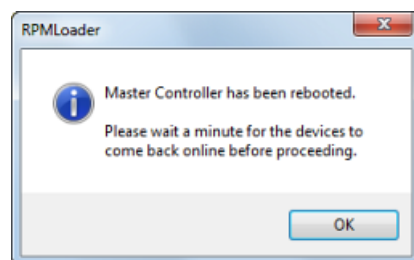

FIG. 29 Master has been rebooted
3. Click **Yes** to proceed. The application will alert you that the Master has been rebooted, and reminds you to give it a little time to get back online (click **OK** to close this dialog - FIG. 29):